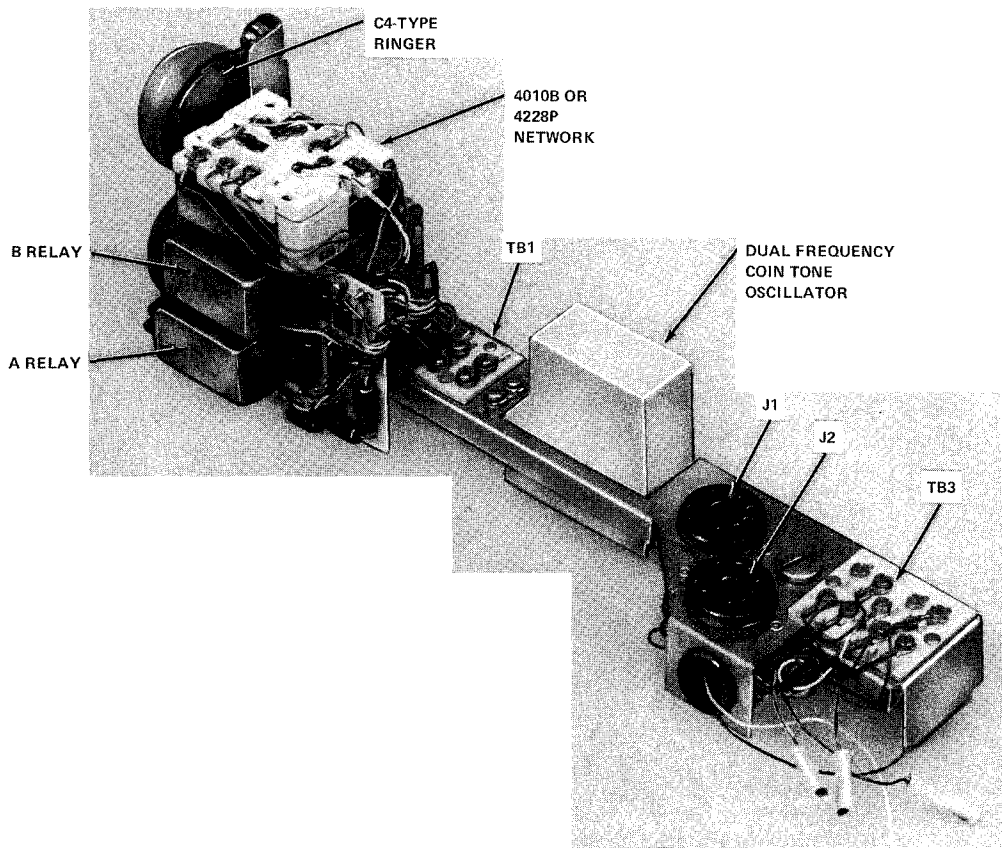

Fig. 6—31A Coin Chassis
- (1) Nickel—1 beep tone
- (2) Dime—2 beep tone
- (3) Pulsing rate—5-8.5 PPS.
**D. Coin Chassis (Fig. 6)**